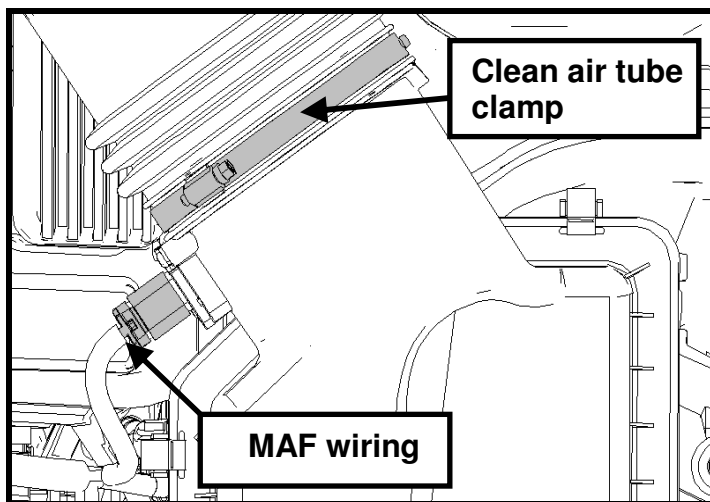

Fig. 1
- STEP 3:** Disconnect the MAF wiring from the airbox. Loosen the clean air tube clamp and disconnect the clean air tube from the airbox (See Fig. 1).